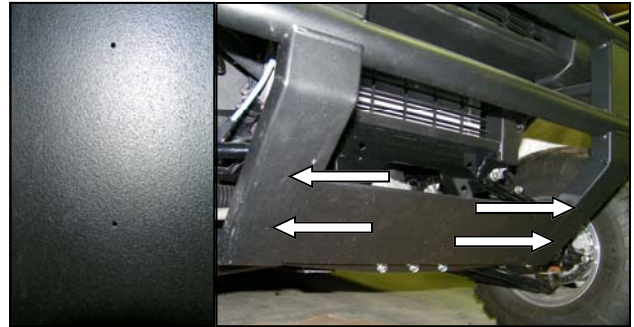

Fig. 3.1
3. Drill the four pilot holes in the front bumper to 13/32" where noted in figs 3.1 and 3.2.